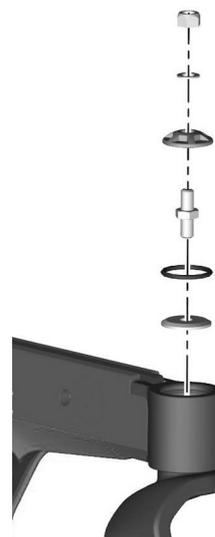

Figure 394. An early revision of the friction brake.
- i** This step does only apply if the wheelchair is equipped with an early revision of the friction brake (see Figure 394).